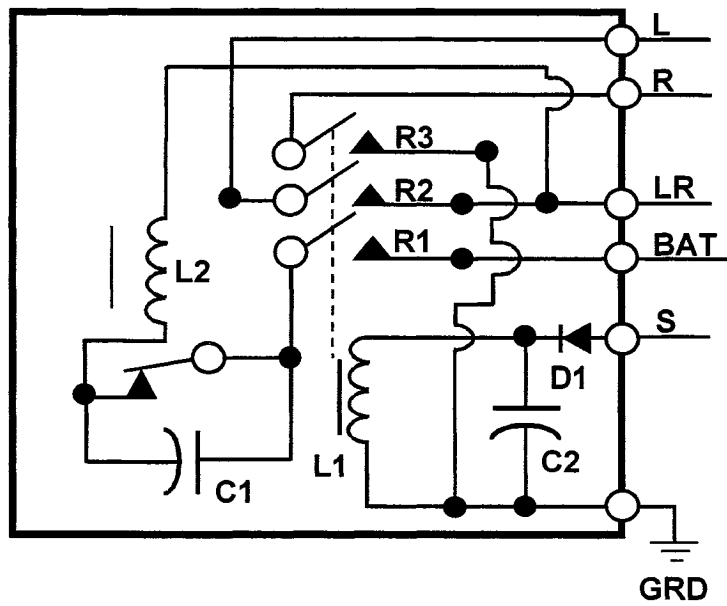

Figure 5-4
Figure 5-4, Starting Vibrator With Relay And Delay	5-6
- c. Figure 5-4, "Sealed Relay Vibrator With Off-Delay."